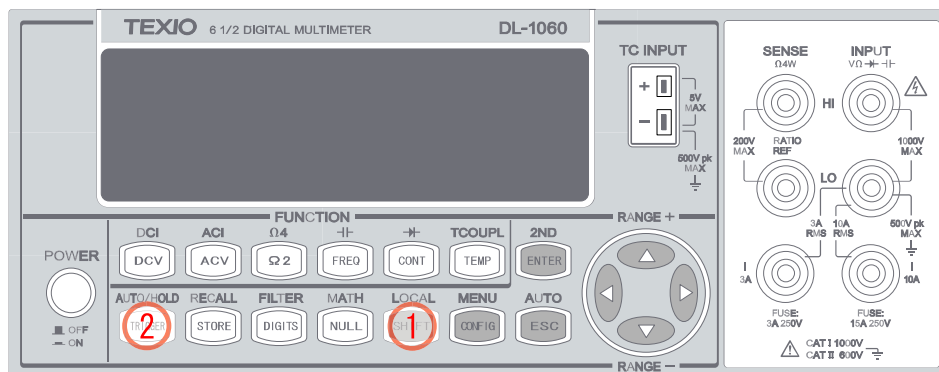

Figure 3-21
2. To disable it, press SHIFT+TRIGGER buttons again as shown in **Figure 3-21**.